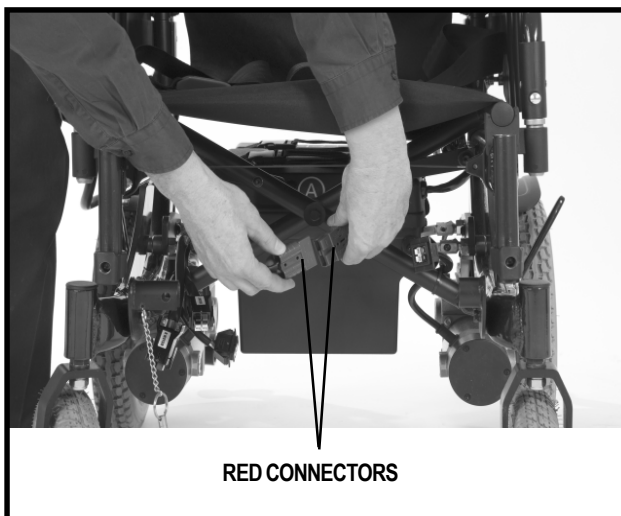

Figure 6. Controller Connection
The Luxor's controller is connected to the front battery box and to each motor. See figures 6 and 7. The motor connectors are marked "L" and "R". The "L" harness is connected to the left motor and the "R" harness is connected to the right motor.
15. Connect the controller to the motors. See figure 6.